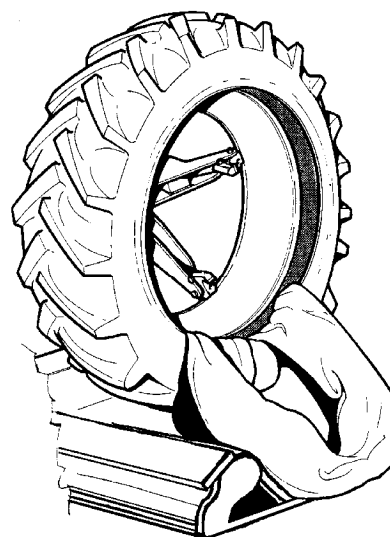

Fig.48
9. Lift the toolholder arm to the rest position. Shift the tire from the rim, moving the toolholder carriage towards the outside: this will make it much easier to extract the tube (Fig.48).